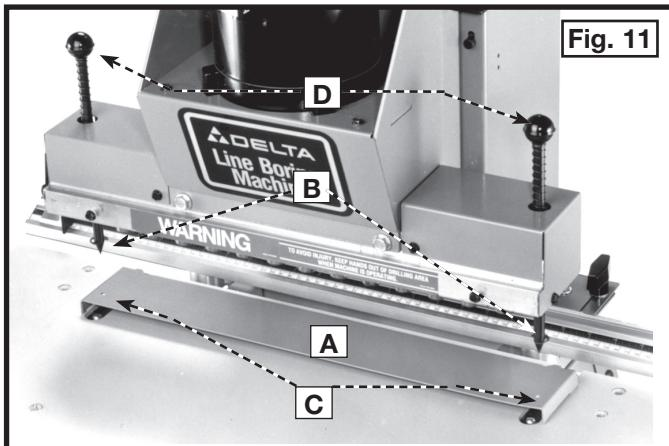
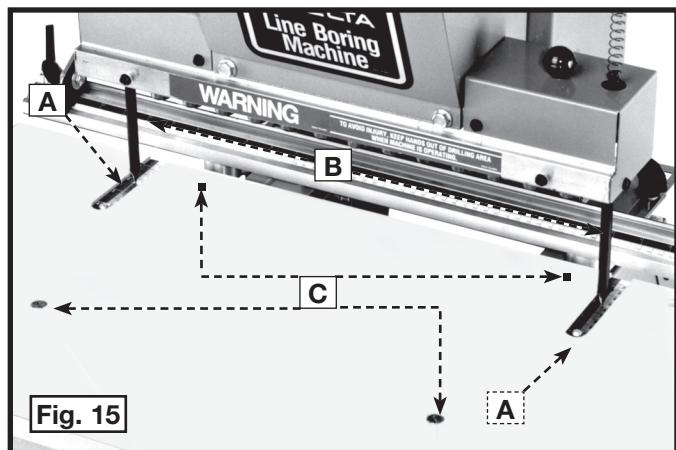

Fig. 11
Fig. 15
1. Set the right fence stop to 9" (229 mm) on the fence scale. Move the left fence stop beyond the 9" (229 mm) mark. Position the gauge (A) Fig. 11 on the table with the points of both of the indexing pins (B) over the holes (C) in the gauge.
2. Unscrew and remove the knobs (D) Fig. 11 from the top of the indexing pins.
1. Remove the gauge (A) Fig. 11. The points of the index pins (B) Fig. 15 should point to the $2\frac{1}{4}"$ mark on both scales.
2. If an adjustment is necessary, loosen the four screws (C) Fig. 15 that fasten the table to the machine frame. Adjust the table until the index pins (B) point to the $2\frac{1}{4}"$ mark on scales (A). **IMPORTANT:** Make sure that the table mounting brackets are held securely against the machine frame and tighten four screws (C).